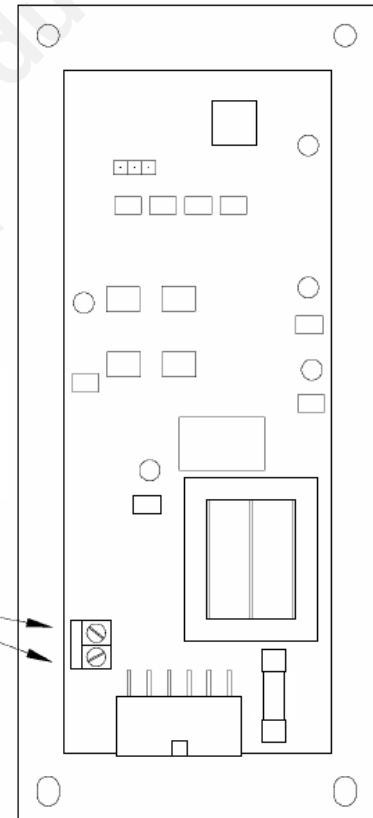

FIGURE 14
- The two thermostat wires connect to the terminal block on the lower left side of the back of the control board. (See figure 14)